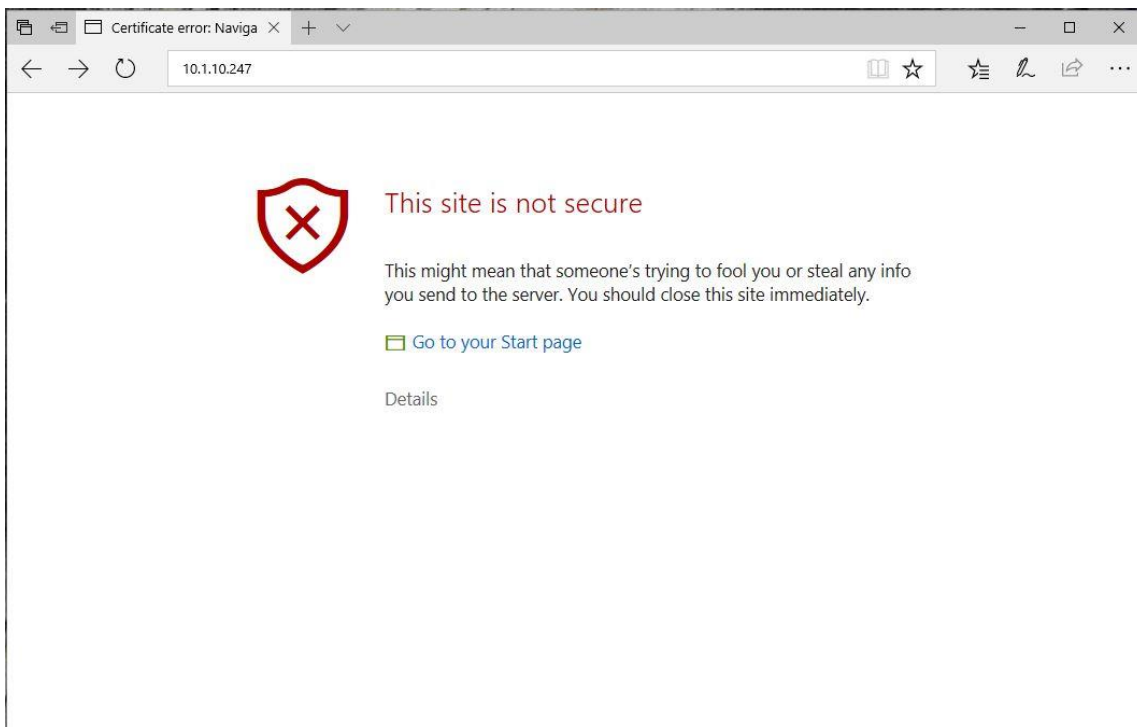

Figure 31: Accessing built-in web server ("This site is not secure").
4. The browser might show you a warning about an invalid web server certificate, as illustrated in Figure 31. Make sure, that you have typed in the correct IP address.